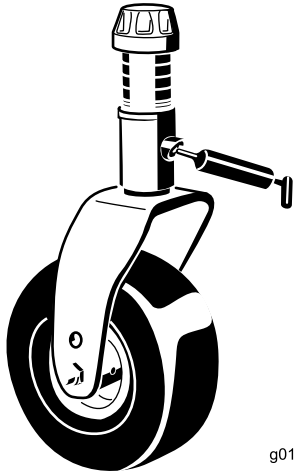

Figure 17
2. Lubricate the castor-arm bushings (Figure 17).